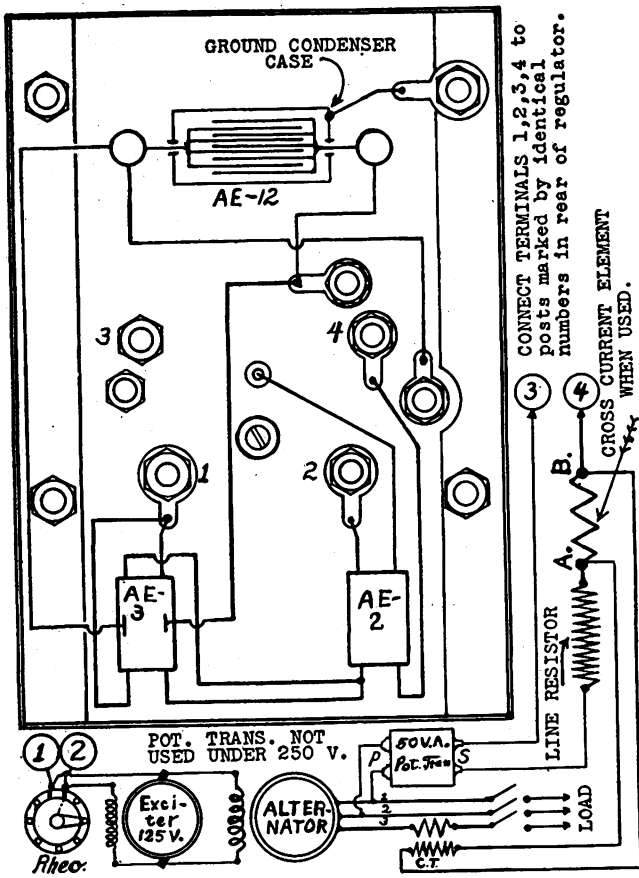

Figure 20. Cross-current connections.
(5) Adjust the governors on both engines if necessary.
**d. Cross-current Connections (fig. 20).**
(2) If the cross current increases with the short-circuited current transformer, the terminals A and B should be reversed.